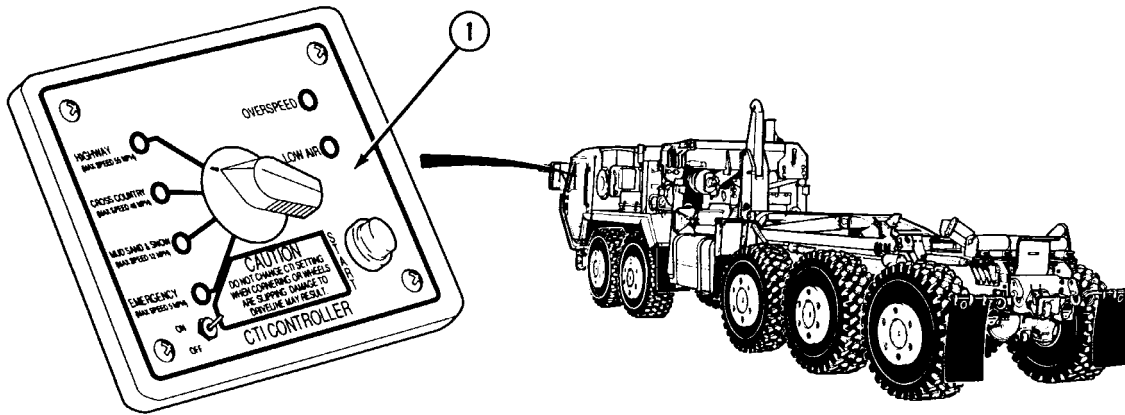

Figure 1-27. Central Tire Inflation System (CTIS)
The Central Tire Inflation System (CTIS) (Figure 1-27) is designed to adjust the pressure of all tires on the truck for different traction conditions. The CTIS controller (1) has four pressure settings which the operator selects and activates in the cab. The CTIS consists of control valves for air supply and distribution, a dash mounted electrical controller that adjusts tire pressure, along with required air tubing, electrical cables, air dryer and air compressor. The drive-line lock-up controls with the exception of the TRANSFER CASE LOCKUP are integrated with the CTIS to simplify operation of the truck. Refer to TM 9-2320-364-10 for operating controls and indicators for the CTIS.